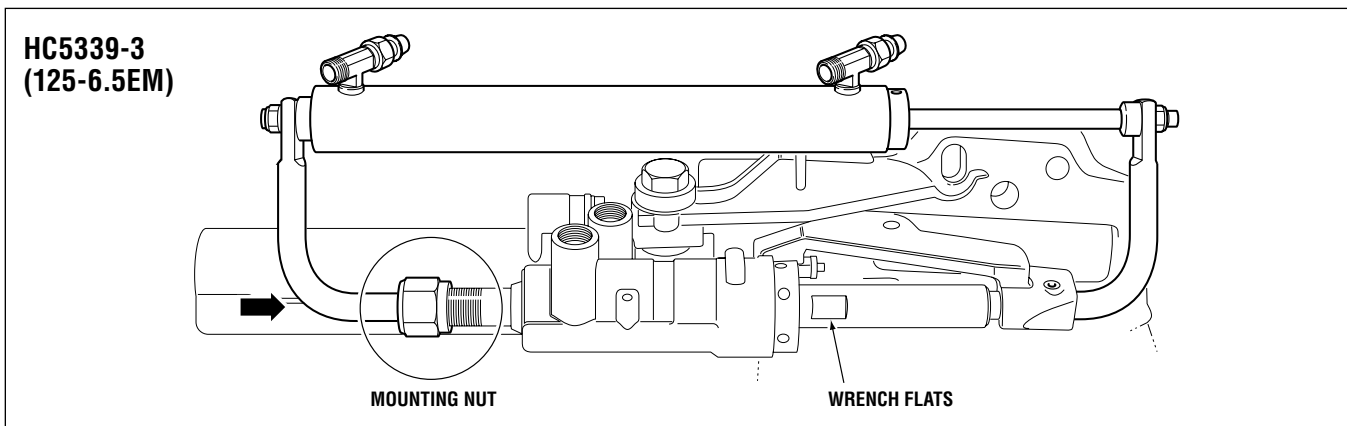

Figure 17.
- 4** Extend HC5339-3 cylinder as required and insert the short rod into the tilt tube as shown in figure 17.